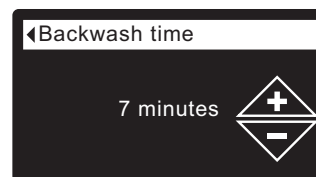

FIG. 76
- 8a. **Backwash time:** Press the UP (▲) or DOWN (▼) buttons to change the backwash time. Hold the button down to rapidly advance. The backwash time can be set from 1 to 30 minutes* (See Figure 76).